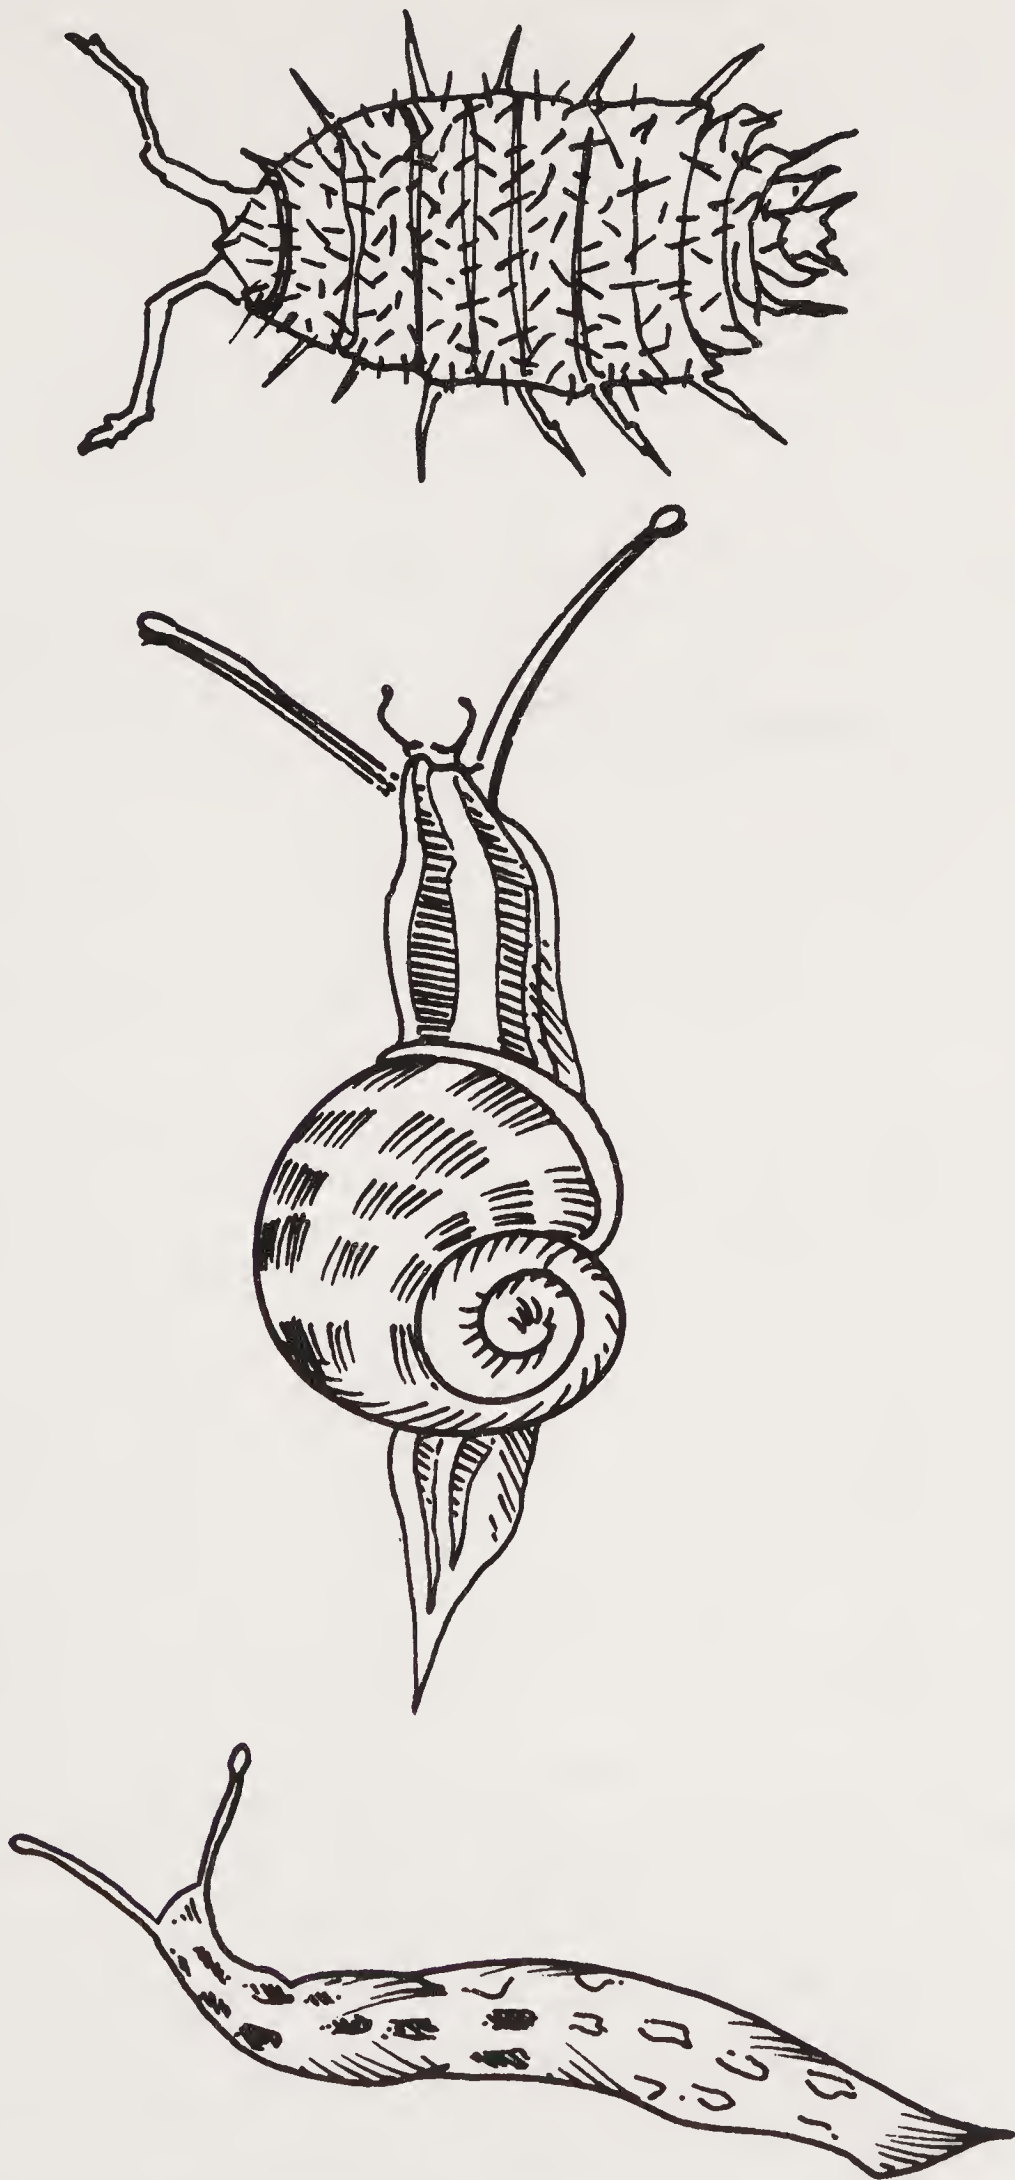

Fig. 3-9. Slugs, Snail, Sowbug, left to right (courtesy of John Wahlfeldt).
**Slugs and Snails.** Several species can be troublesome in the greenhouse. Both snails and slugs (Fig. 3-9) have fleshy, soft, slimy, legless bodies that range in color from whitish yellow to